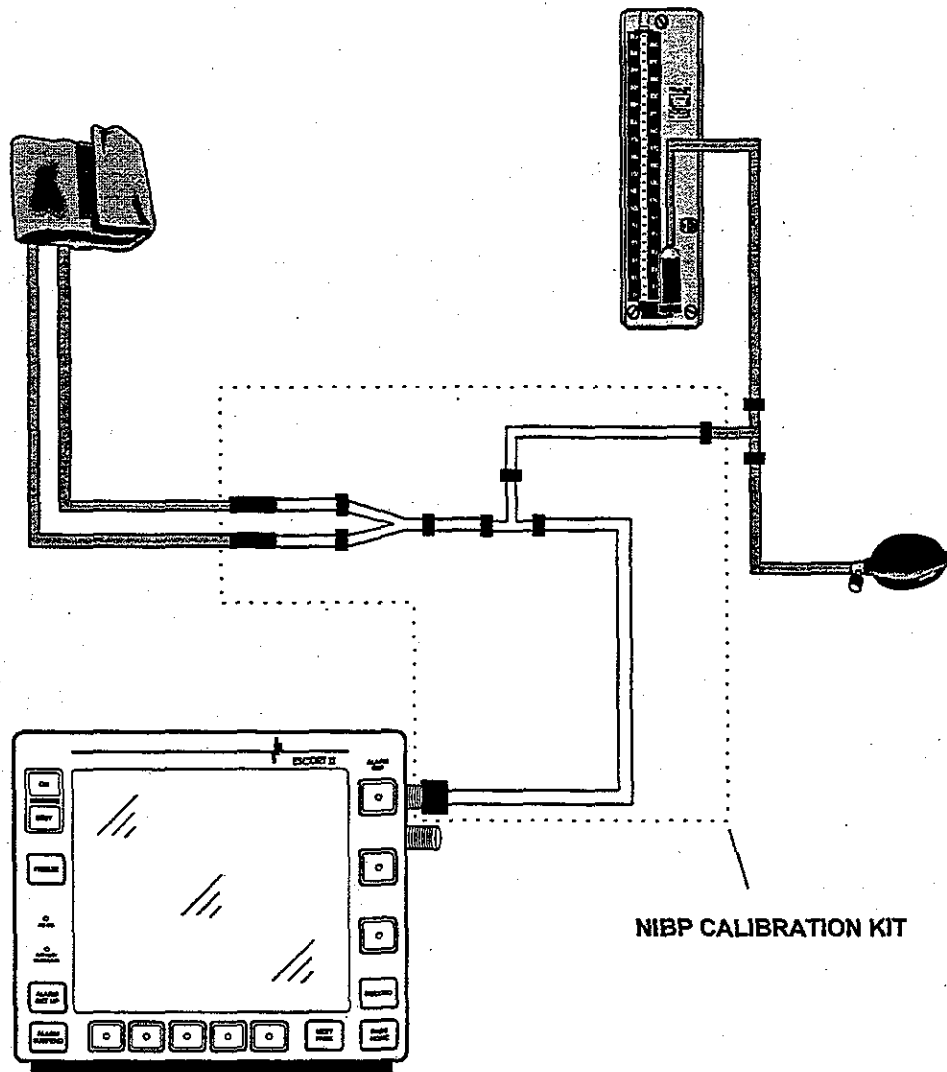

Figure 7-3: NIBP Calibration Check Setup
3. Connect a mercury manometer to the monitor using the calibration kit as shown in Figure 7-3.